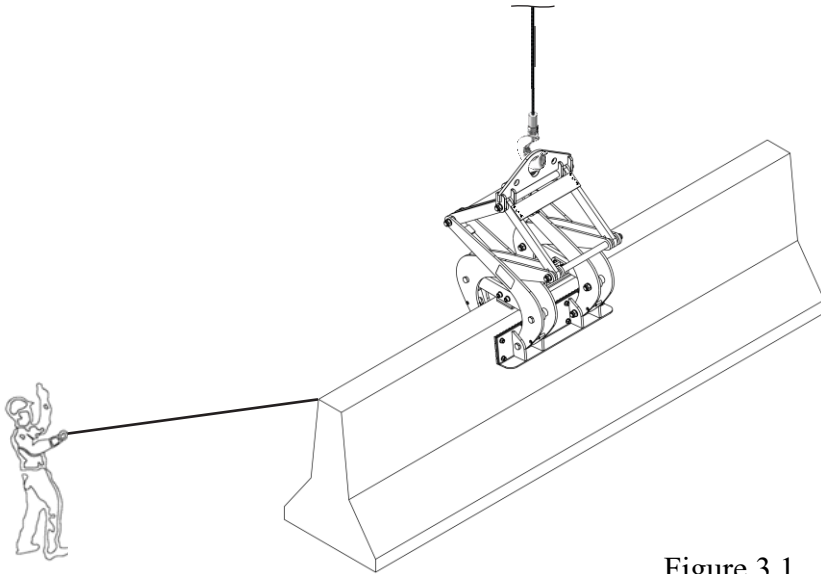

Figure 3.1
**Step 3:** Move the concrete barrier to desired location (Figure 3.1).